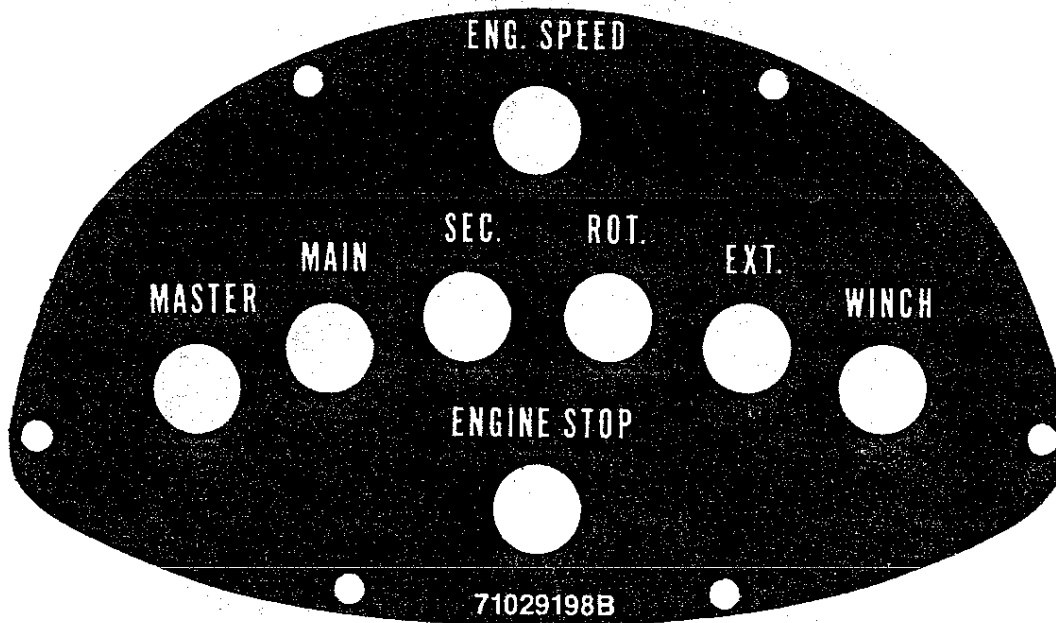

Figure C-1. Control Placard
The crane controls are basically a hand-held remote control unit consisting of four (4) crane functions, a MASTER switch and an ENGINE STOP switch (Figure C-1). The functions and operating directions are as follows: